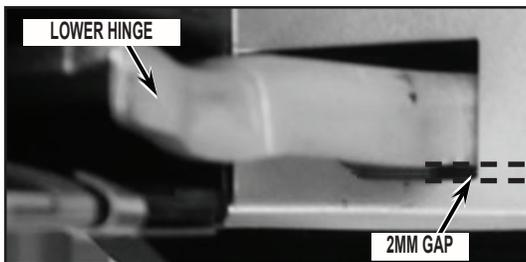
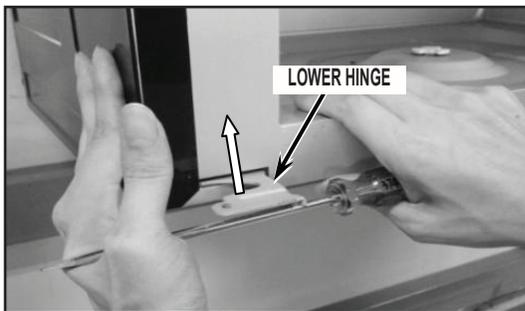

FIGURE 5
FIGURE 6
- Lower door hinge should have 2mm gap between bottom of hinge and cabinet opening. See *Figure 5*.
- Adjust accordingly as shown. Use a sturdy tool to increase the space below the lower hinge, so that the supplied hinge bracket can be inserted easily. See *Figure 5* and *Figure 6*.